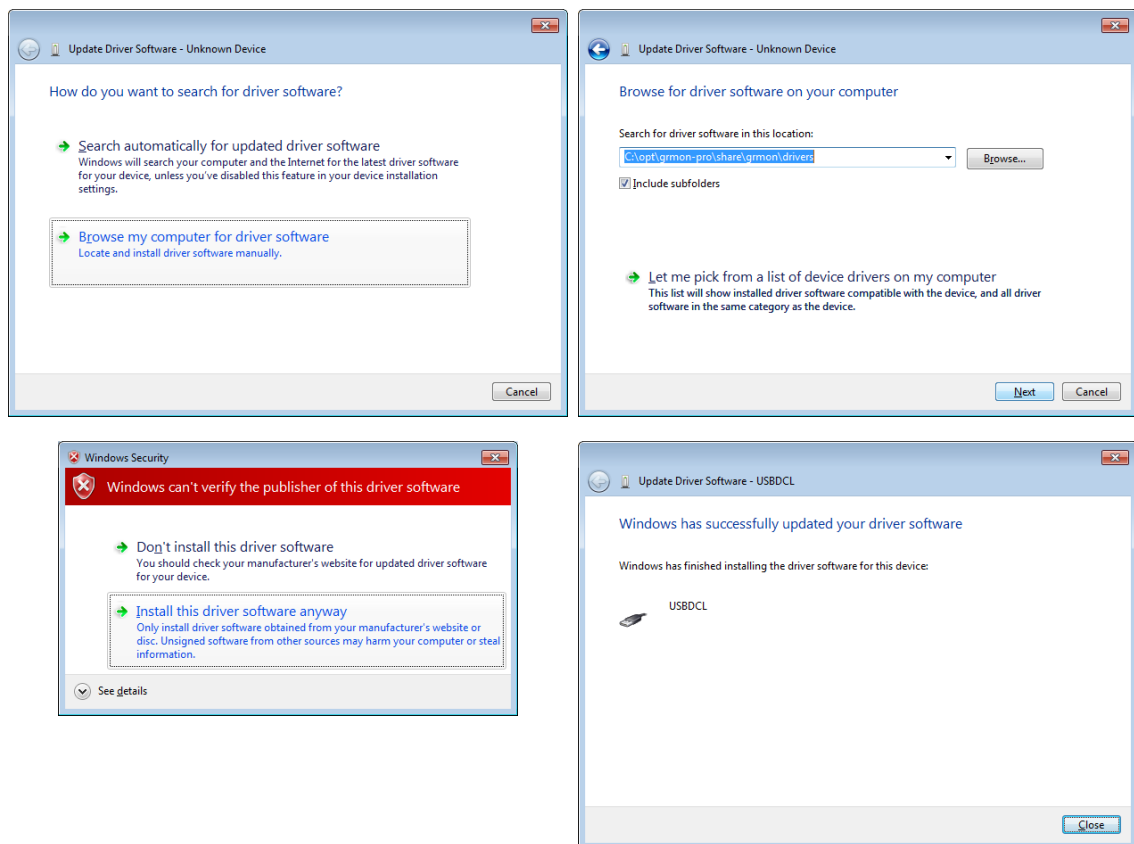

Figure 4.5.
3. In the dialog that open, the first image in Figure 4.5, choose '**Browse my computer for driver software**'.
5. A warning dialog might pop-up, like the third image in Figure 4.5. Press '**Install this driver software anyway**' if it shows up.